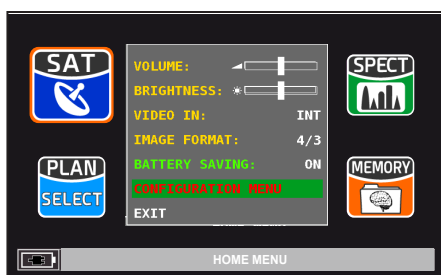

FIG. 1*
- Press the volume key and select “configuration menu” (fig. 1);